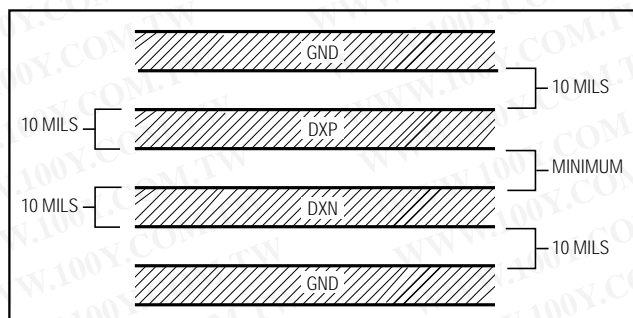

Figure 2. Recommended DXP/DXN PC Traces
- 4) Connect guard traces to GND on either side of the DXP–DXN traces (Figure 2). With guard traces in place, routing near high-voltage traces is no longer an issue.
- 7) Use wide traces. Narrow ones are more inductive and tend to pick up radiated noise. The 10 mil widths and spacings recommended in Figure 2 aren't absolutely necessary (as they offer only a minor improvement in leakage and noise), but try to use them where practical.